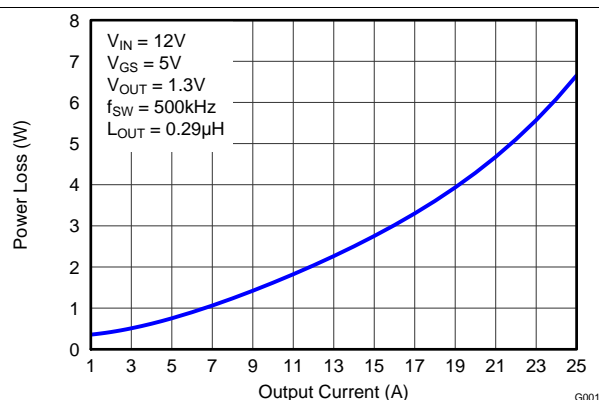

Figure 1. Power Loss vs Output Current
MOSFET-centric parameters such as  $R_{DS(ON)}$  and  $Q_{gd}$  are needed to estimate the loss generated by the devices. To simplify the design process for engineers, TI has provided measured power loss performance curves. Figure 1 plots the power loss of the CSD87588N as a function of load current. This curve is measured by configuring and running the CSD87588N as it would be in the final application (see Figure 27). The measured power loss is the CSD87588N loss and consists of both input conversion loss and gate drive loss. Equation 1 is used to generate the power loss curve.
The power loss curve in Figure 1 is measured at the maximum recommended junction temperatures of 125°C under isothermal test conditions.
- Power Loss at 15 A = 2.75 W (Figure 1)